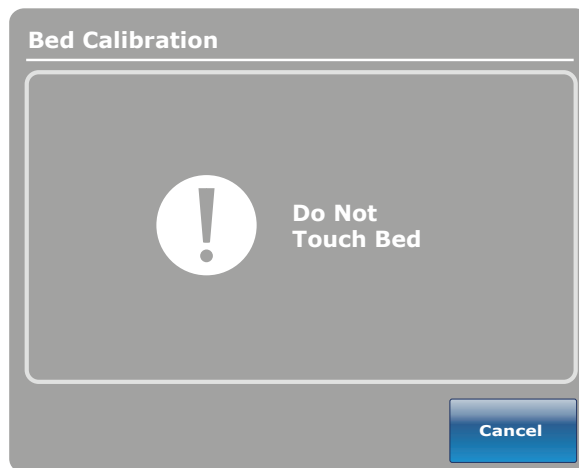

Figure 18: Do Not Touch Bed Screen
19. The “Do Not Touch Bed” screen will appear as shown in Figure 18.